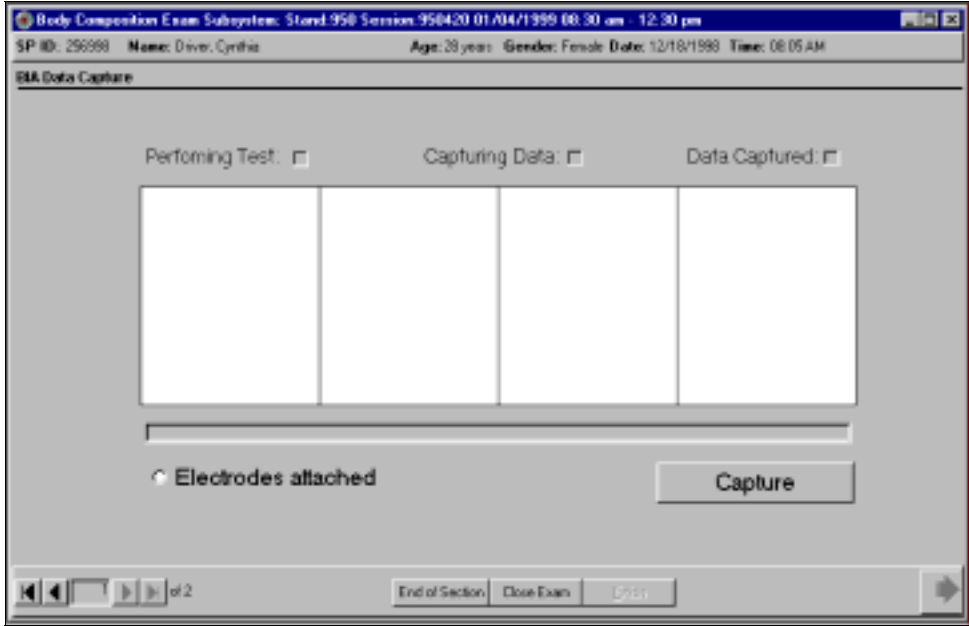

Figure 4-36. BIA data capture (1)
- When the test is completed, the system will check the 'Capturing data' button. See Figure 4-36.